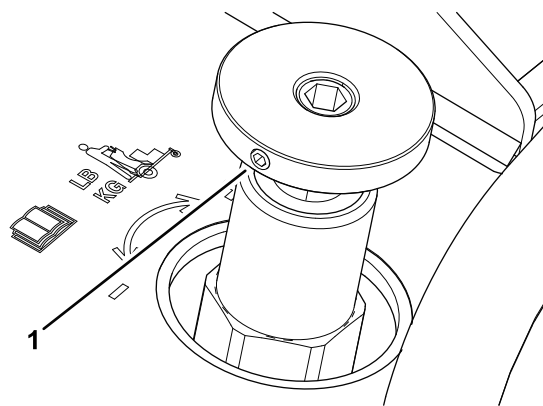

Figure 25
- If the machine raises and the ground tires are no longer touching, rotate the knob for the operator weight adjustment control counterclockwise (Figure 25) to lower the machine until the tires touch the ground.